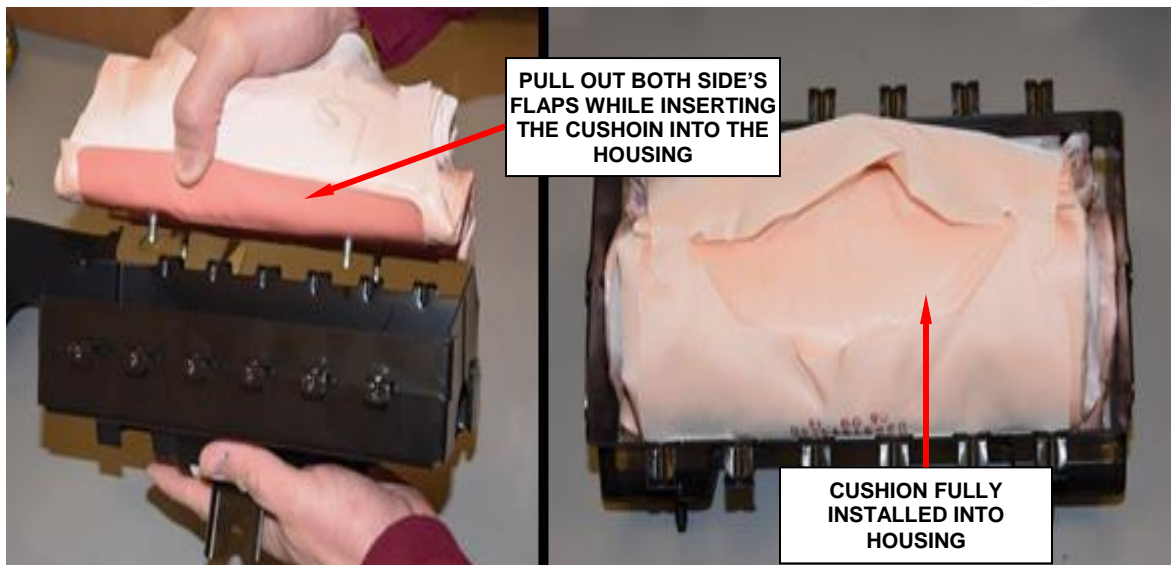

Figure 135 - Side Flaps Must Be Held Out
- j. Insert the cushion, pulling out both side flaps (Figure 135).